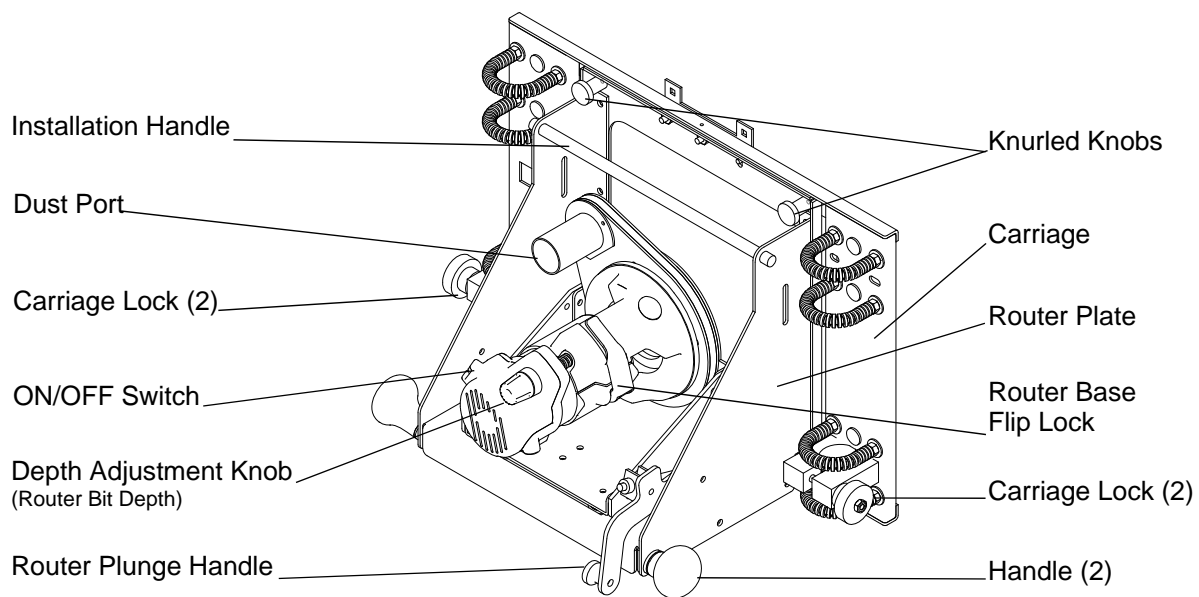

Figure 9: SR5 and SR5A Router Carriage
1. Install router motor into base by loosening router base lock-knob (do not remove) (Pg. 14, Fig. 8) or opening flip-clamp (Pg. 15, Fig. 9) (depending on model). Place router motor into base and twist clockwise to position motor until motor is seated in base but collet is not touching acrylic sub-base. Tighten router base lock-knob or close flip-clamp (depending on model). This will secure router motor in base.